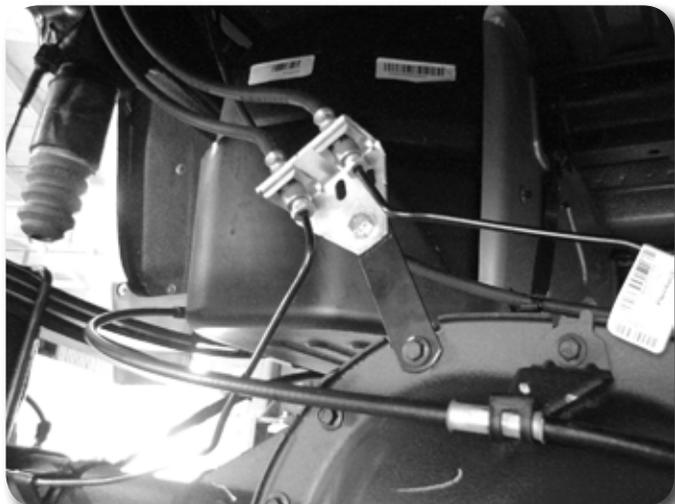

Figure 46
15. Install the provided straight 3" brake line bracket to the top of the differential using factory mounting hole and bolt which must be removed from the factory brake line bracket. Attach the factory brake line bracket to the relocation bracket with a 5/16" x 1" bolt, nut and washers. Torque the factory and 5/16" bolt to 20 ft-lbs **Figure 46**.